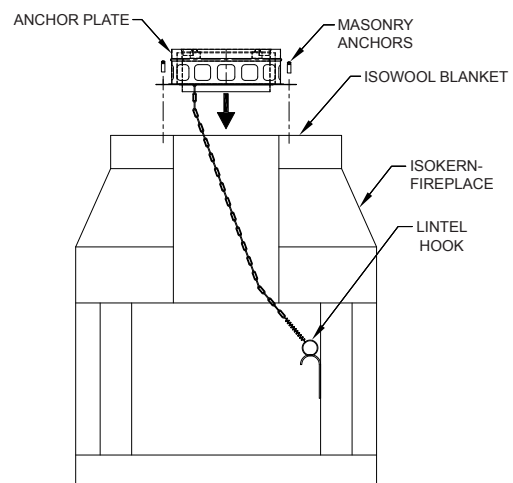

FIG. 1
It is important that the surface of the Isokern chimney has a level surface on which to attach the Anchor Plate. If the top of the Isokern does not have a level surface, then it will need to be modified accordingly. Center the Isowool blanket over Isokern Top Plate hole and trace outline of hole with a pen or marker. Cut a hole in the blanket to match the hole in the Isokern top plate. Center the Isowool blanket over the Isokern Top Plate flue opening, then center anchor plate over the Isowool blanket. If a Damper is used, make sure nothing interferes with the damper plate movement. Secure the Anchor Plate with four (4) masonry anchors. See **FIG.1**. If the Anchor Plate with Damper is installed the damper should swing freely. When the chain is pulled down, the damper should close (horizontal position). When the chain is released (no weight on the chain), the damper should swing open (vertical position). To install the lintel hook, place the damper plate in the closed (horizontal) position. Determine and mark the position of the lintel hook. The lintel hook should be mounted in a position so as to provide a small amount of tension in the spring so as to provide a small amount of tension in the spring attached to the chain. See **FIG. 1**. The tension is needed to prevent the damper plate from rattling when closed. Mount the lintel hook to masonry with the screws provided. Do not obstruct openings in the anchor plate.